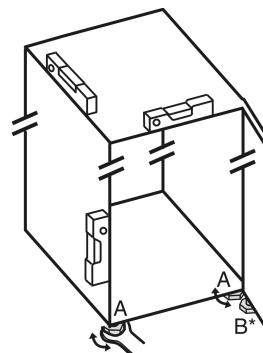

Fig. 4
- ▶ Unscrew the adjustable feet Fig. 4 (A) using the enclosed open-end spanner and a spirit level until the appliance is firmly aligned and level.
▶ Unscrew the adjustable foot *Fig. 4 (B)* on the swap bearing block with the enclosed open-end spanner until it rests on the floor.
▶ Turn the adjustable foot *Fig. 4 (B)* 90° further.